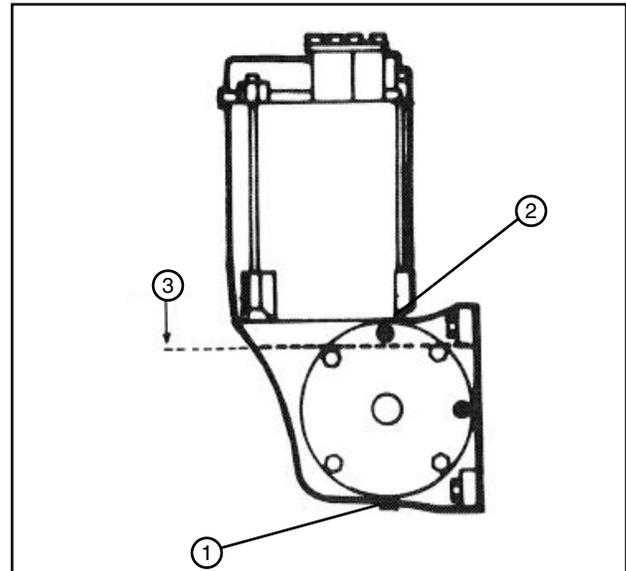

Figure 67-2 1. Drain Plug 2. Fill Plug 3. Oil Level
1. Remove the drain plug and the fill plug. Drain the oil and install the drain plug. See Figure 67-2.
2. Fill the gearbox to within 1/2 in (12.7 mm) of the bottom of the fill plug hole with Valley Gear Lube. The capacity of the gearbox is approximately 1 quart (0.9 liter). See Figure 67-2.